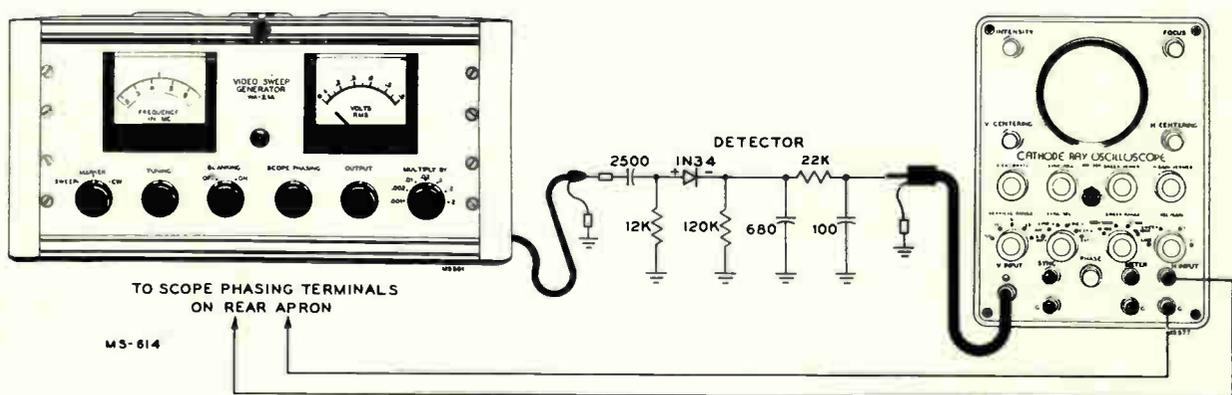

Figure 2—Setup for Initial Adjustment
Initial Adjustments—The Video Sweep Generator, a suitable oscilloscope, and a detector should be set up as shown in Figure 2.
tector, used in forming the curves shown in this book, is shown in Figure 2.
2. Connect the WA-21A output cable, through a suitable detector, to the vertical terminals of the oscilloscope (same setup as Figure 2).